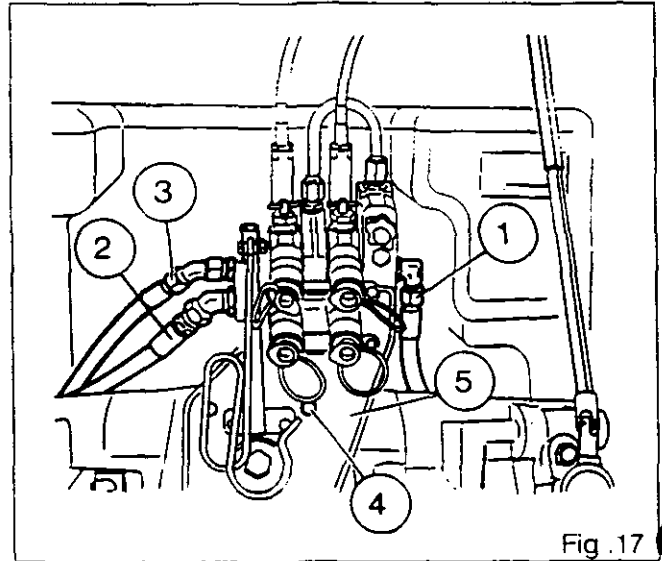

Fig .17
- 68. Smear the thread of the two lower screws (4) with Loctite 510. Fit and tighten the bolts (4) in the spool valve support to a torque of 50-70 Nm (Fig. 17).
- 69. Reconnect (Fig. 17):
- the supply hose (1) to the spool valve
- the supply hose (3) to the lift valve
- the return hose (2)
- 74. Smear the thread of the sensor (26) with a sealing compound (Hylomar or equivalent), then screw in the sensor a few turns and connect the harness.